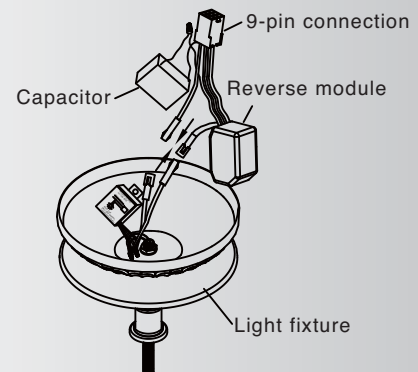

Fig. 30
Step 2. Connect the Black wire from the Light Fixture to the blue wire from the Wiring Harness by pushing them together. Repeat this procedure for the White wires. Now, remove the paper from the double sided tape on each of the components of the Wiring Harness and attach them to the inside of the Light Fixture Switch Housing. Refer to Fig. 30.